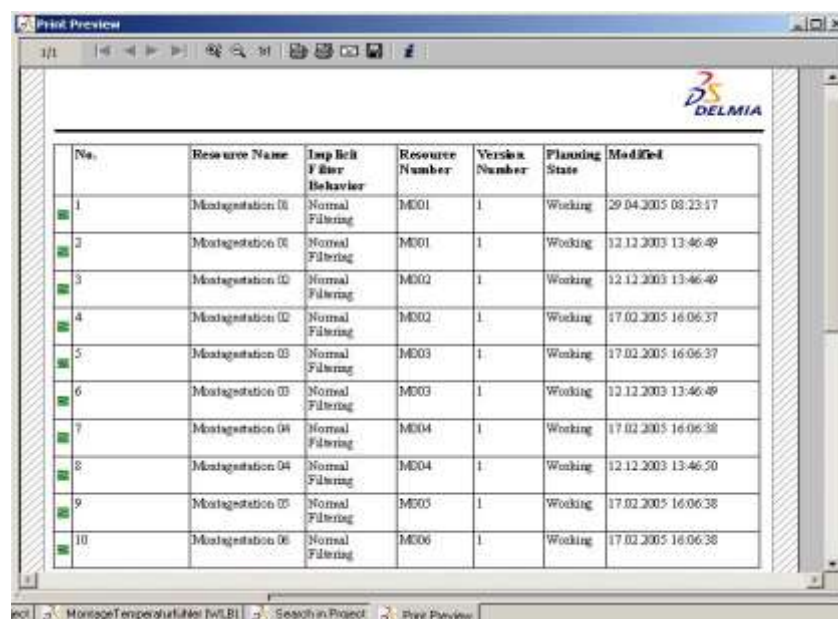

Figure 18: Selected Objects are Printed – Example Finder
- 2) Start the print transaction - print preview shown in Figure 18. The print-out corresponds to the selection made in the list view of the finder.